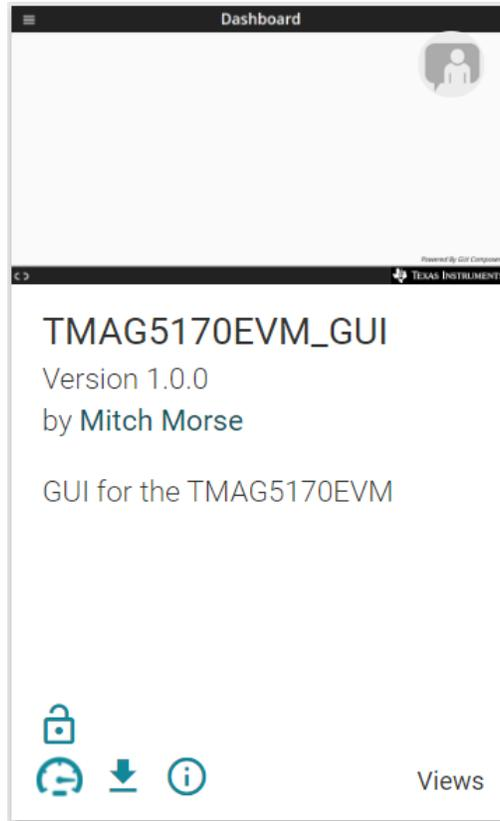

Figure 3. GUI Composer Application Window
3. To launch the GUI from the web browser, click the **GUI Composer** application to open the *GUI Composer* window shown in Figure 3.
4. Optionally, the GUI can be downloaded for offline use by clicking the  icon in the *GUI Composer* window shown in Figure 3.